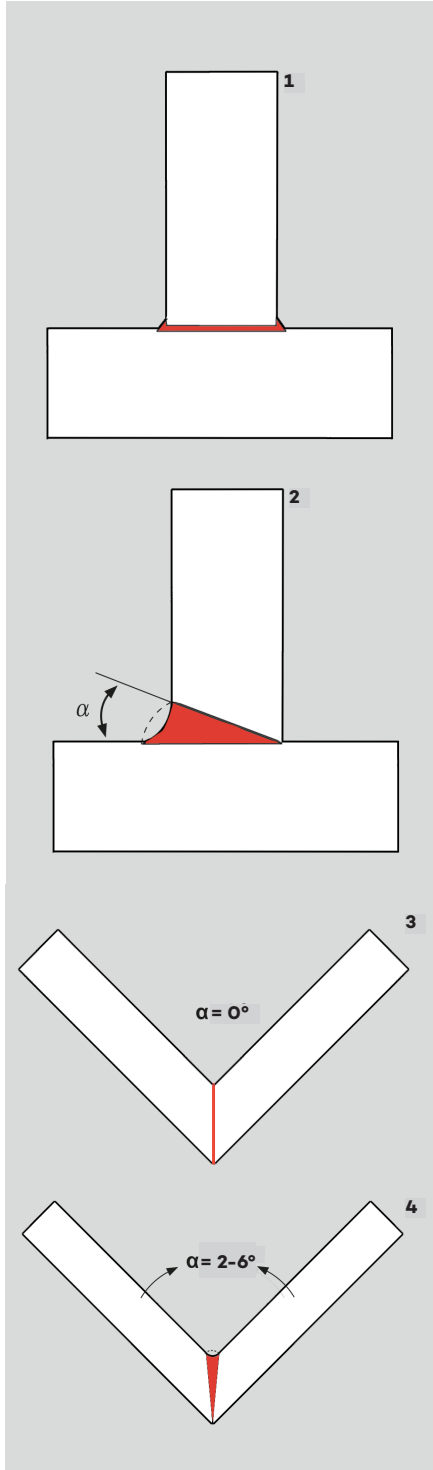

Figure 8: Seams in T-joints
There are different variants for creating T-joints with polymerisation adhesives. In addition to the simple butt joint (Fig. 8 (1)), V-joints and fillet joints have proved suitable in practice. These can be positioned externally (Fig. 8 (2)) or internally (Fig. 8 (3 & 4)).
Fundamentally, the opening of the joint should be at least 1–2 mm depending on the viscosity of the adhesive (ACRIFIX® 2R 0190 (viscous) 2 mm opening, ACRIFIX® 2R 2019 (low-viscosity) 1 mm opening). The bonding gap should always be overfilled in such a way that the adhesive does not shrink back into the joint gap during polymerisation and subsequent annealing. In order to produce the required adhesive bead, the horizontal sheet should project slightly. The V-groove shown in on the left in Fig. 8 (2) then forms as the adhesive shrinks while curing.